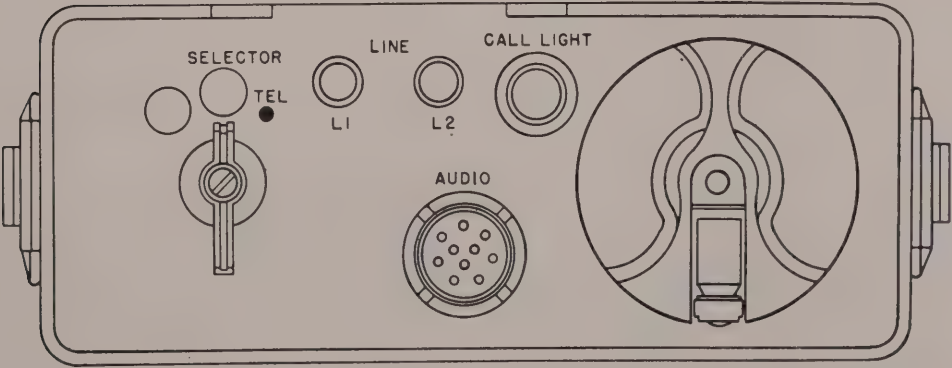

Figure 64. Panel view of remote control unit.
a. Set the panel-mounted SELECTOR switch to the TEL position (fig. 64).
Figure 64 illustrates the controls and connectors on Remote Control C-433/GRC. The controls and their functions are described in the following chart: